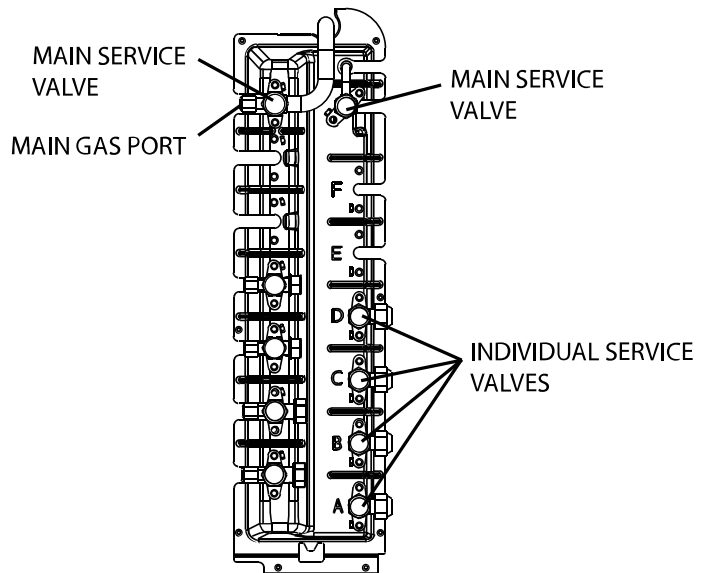

Fig. 19 —Service Valve Locations
1. Completely tighten flare nuts A, B, C, D, E, F, (see Fig. 19). Connect the manifold gage charge hose to a charge port of the low side service valve (see Fig. 19).
9. Fully open service valves B and A (see Fig. 19)